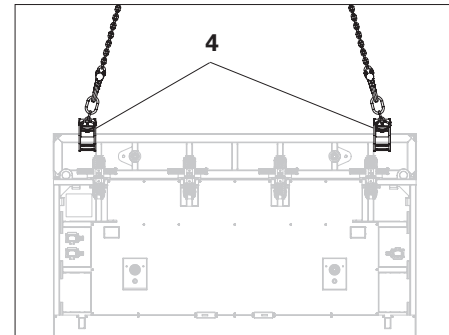

Fig. B4.01a
Use Lifting Hook MAXIMO 1.5 t (4) for Heated Panel Units with Panel MX 30 as extension. (Fig. B4.01a)